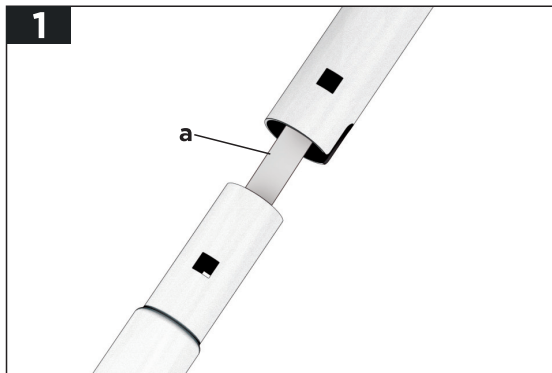

Fig. 2
- a. The tool arrives with the shaft-locking knobs and bolts detached and shafts loosened. You need to connect and lock the three shafts together. Slide the middle shaft onto the lower shaft. Line up the two square mounting holes on each tube. Make sure the cable (a) is clear of the square holes. (Fig.2)